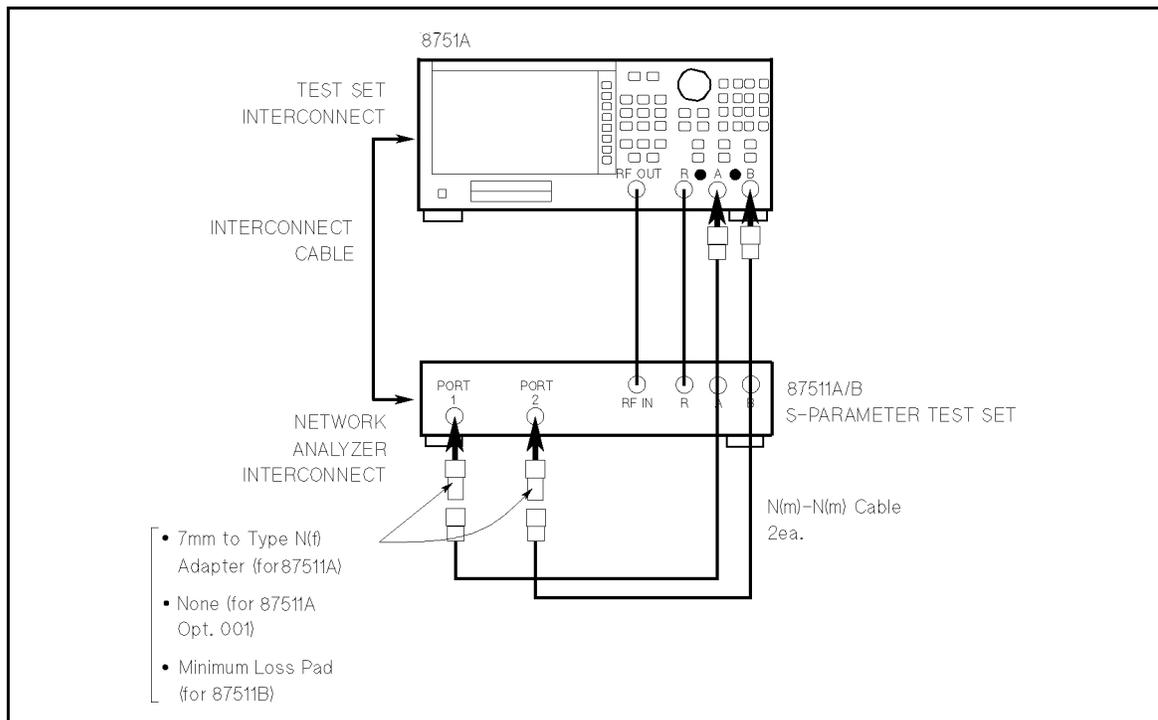

Figure 4-2. Switch Repeatability Test Setup
1. Connect the equipment as shown in Figure 4-2.